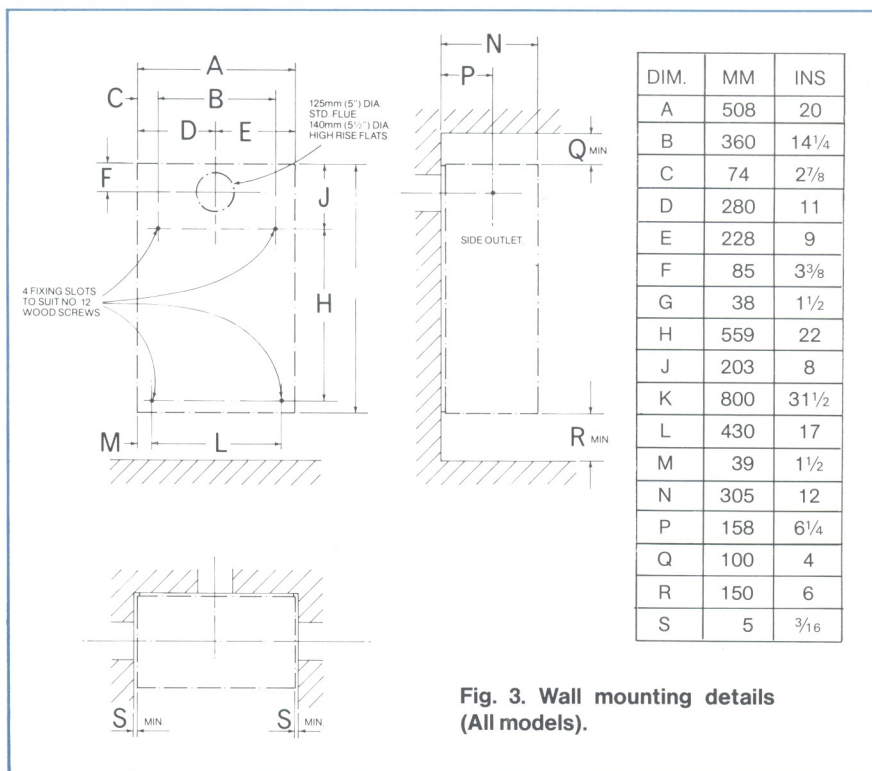

Fig. 3. Wall mounting details (All models).
1. Using the template provided on the carton, fig. 3, mark out the positions on the wall of the four fixing holes (All Models) and flue terminal aperture. With No. 12 masonry drill, drill holes at least 2 1/4" deep to accept plugs provided for fixing screws and carefully cut brickwork as necessary.